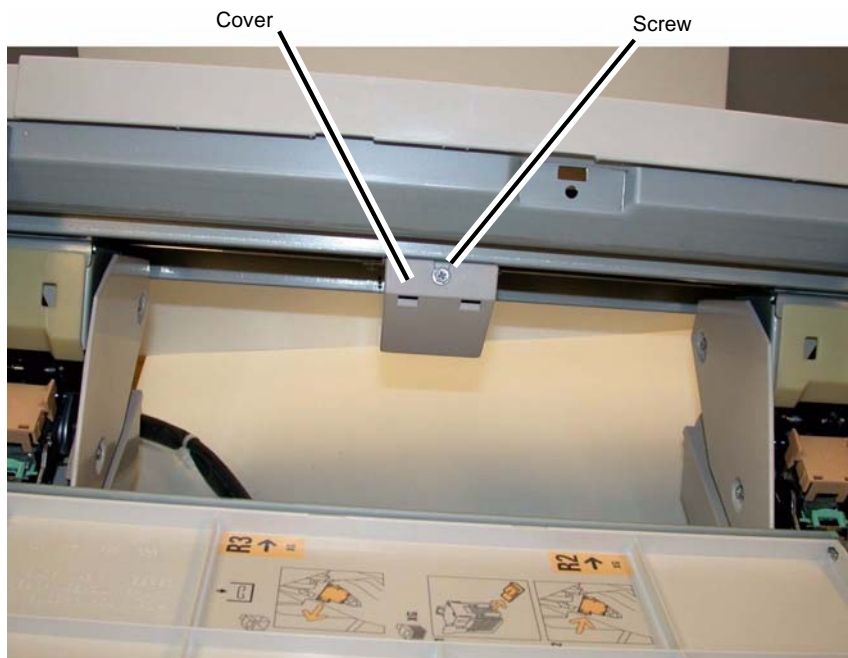

Figure 1 Removing the Cover
4. Remove the Cover for the Booklet Stapler Move Motor (Figure 1).
- a. Remove the Screw (1).